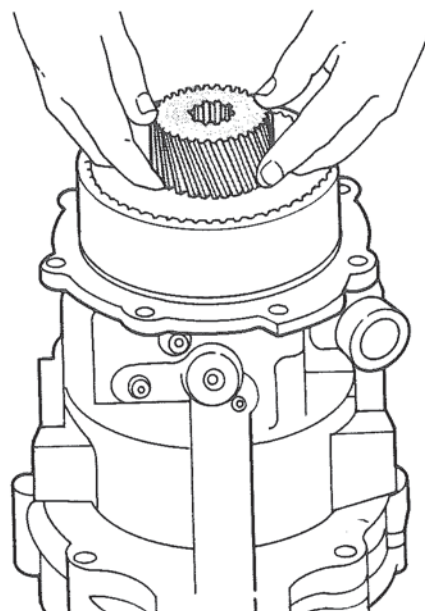

Figure 20. Installing Sun Gear.
1. Install the sun gear on the output shaft until it is seated against the shoulder. Figure 20.